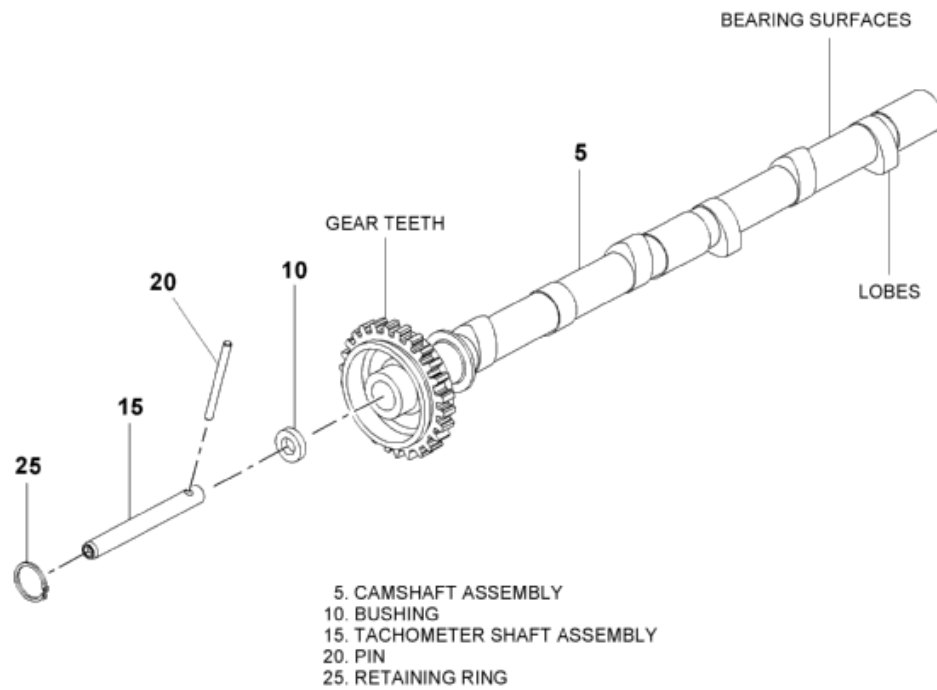

figure 72-00-08.8 • Camshaft Assembly
- Check connecting rod squareness. Refer to Figure 72-00-08.15. Replace if tolerances are outside the limits